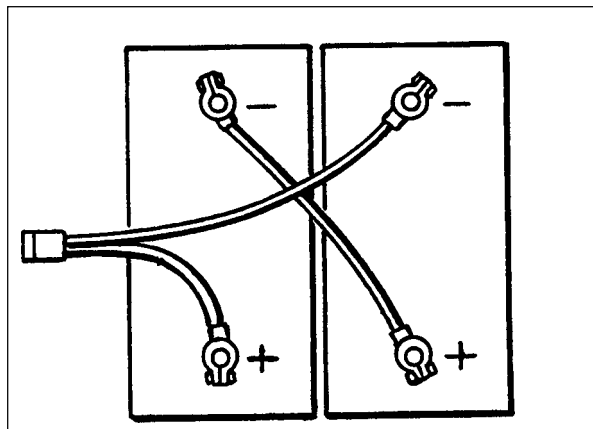

Figure 20
4. Install the batteries using the battery lift handles. See figure 20 for proper positioning of the batteries.